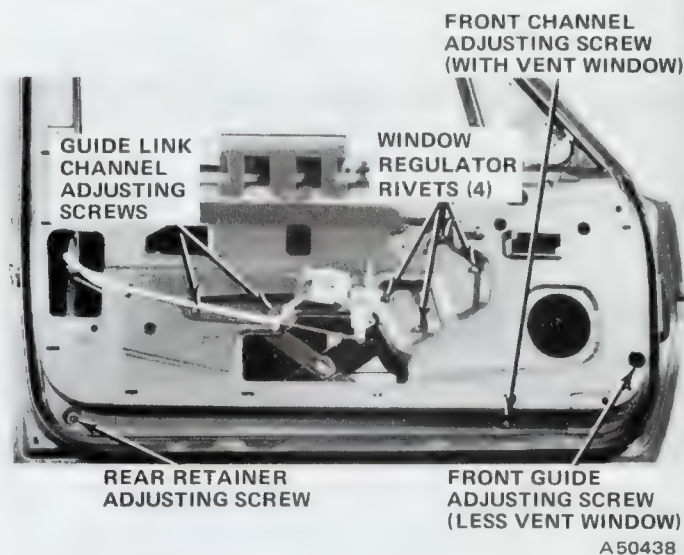

Fig. 3J-5 Glass Adjustments—Pacer
There are three adjusting points (fig. 3J-5) for obtaining front door window glass alignment. The front and rear glass guide channels are adjustable fore and aft at the lower attachment points. Adjustment at the guide link channel controls glass tilt or horizontal attitude.
- (1) Remove door trim panel and water dam paper.
- (2) Loosen front and rear glass guide channel screws (fig. 3J-13).
- (3) Adjust glass.